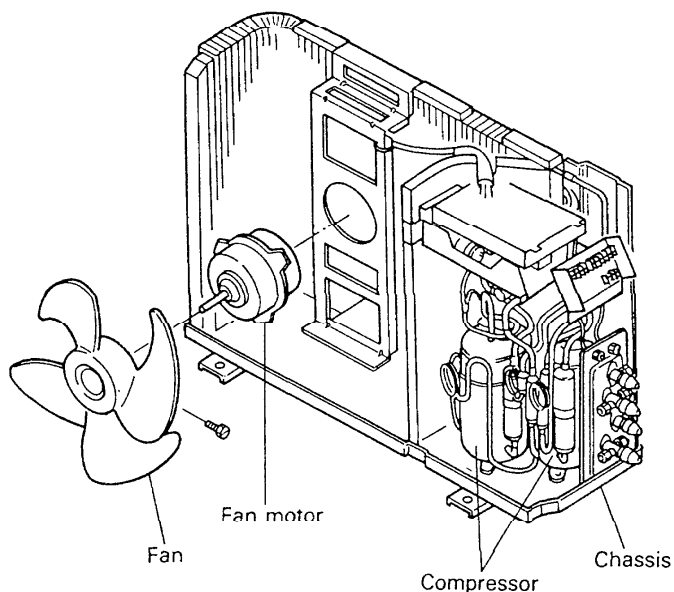

Fig. 8
- (1) Remove the fan by removing the propeller fan fixing screw (A) using a straight blade screwdriver. Refer to Fig. 8.
- (2) Using a pincher, cut the plastic wire ties fixing the fan motor lead wires connected to fan motor capacitor or other terminals.
- (3) Using a Phillips screwdriver, remove the three fixing screws of the fan motor, then withdraw the fan motor.